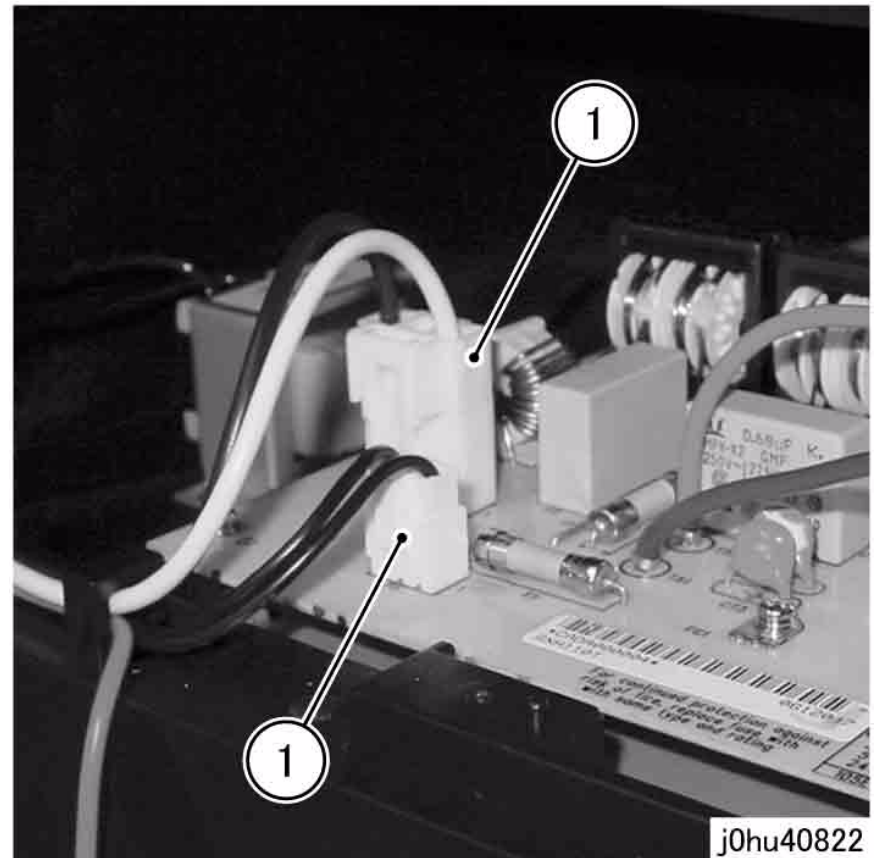

Figure 4 Disconnect Connectors
7. Disconnect the connectors (Figure 4).